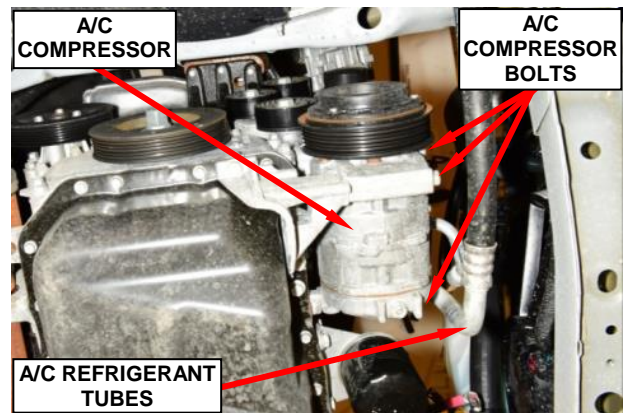

Figure 95 – A/C Compressor
82. Disconnect the A/C suction and discharge refrigerant tubes from the A/C compressor then remove and discard the O-ring seals (Figure 95).
84. Support the A/C compressor then remove and save the three bolts that secure the compressor to the engine (Figure 95).
85. Remove and save the A/C compressor (Figure 95).